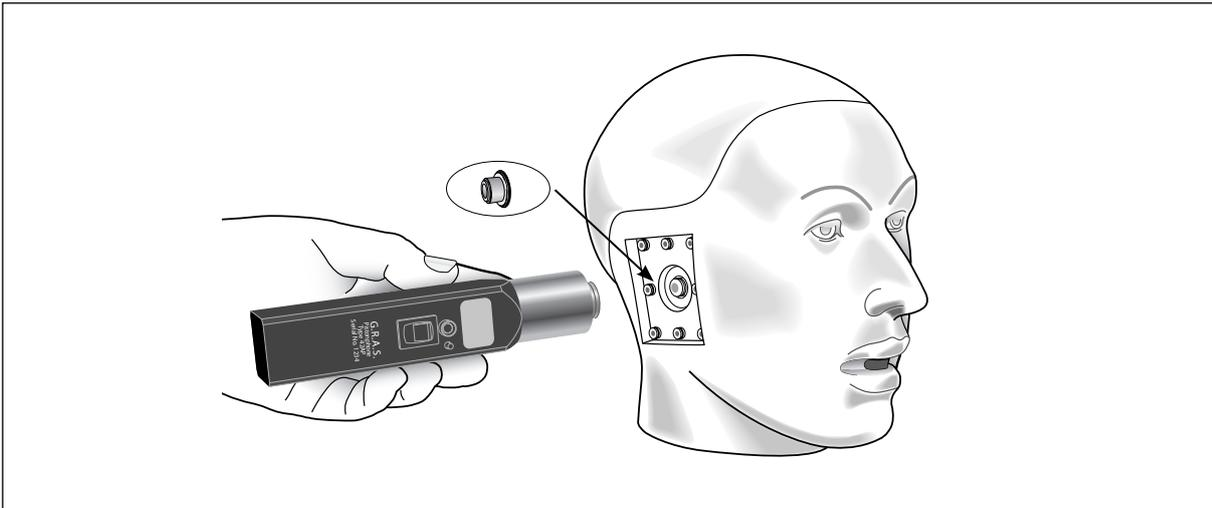

Fig. 56. *In-situ calibration of ear simulator. The low-noise ear simulator cannot be calibrated in-situ.*
4. Place the pistonphone over the entrance to the ear-canal extension (Fig. 56), push it gently down to the stop, hold it there, and switch it on.